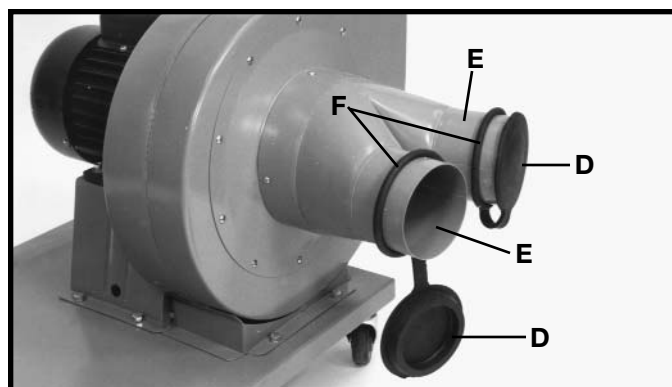

Fig. 17
3. **NOTE:** Two dust intake port caps (D) Fig. 17, are supplied with the dust collector. The caps are to be placed into the dust intake ports (E) when the intake ports are not in use.
4. Place the collar of dust cap (D) Fig. 17, over the opening on intake port. Press recessed side of dust cap (D) into port opening. **IMPORTANT:** When connecting an intake hose to one or both intake ports, **DO NOT REMOVE THE DUST CAP COLLARS (F) FIG. 17 FROM THE INTAKE PORTS.** Pull the dust cap from the port opening and slide the collar and cap farther onto the port housing.